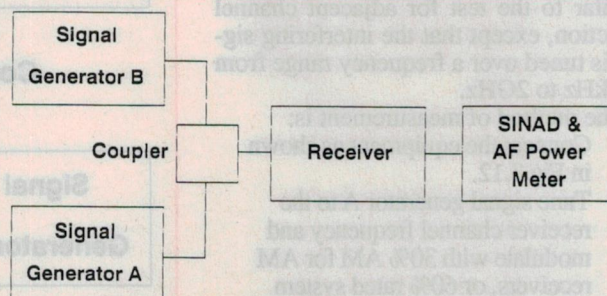

Fig.3.12: Spurious response rejection
- Connect the equipment as shown in Fig.3.12.